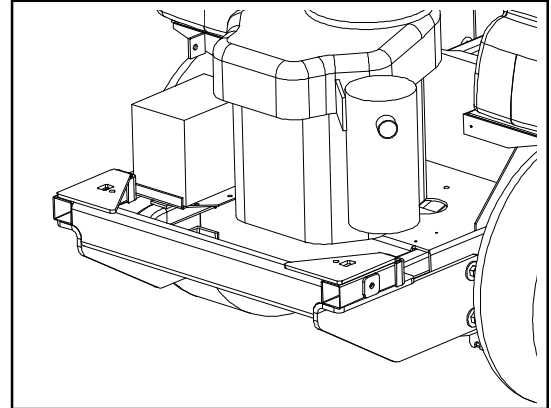

Figure 3
- Ensure all hardware is tight and replace wheels. See Figure 3 for assembled view.